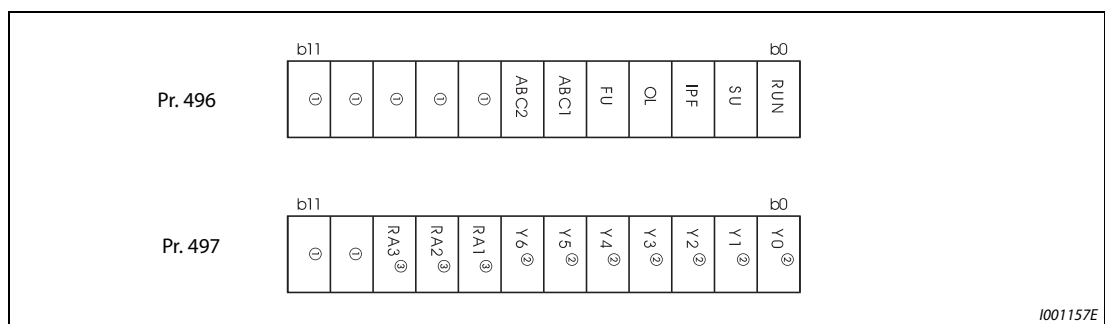

Fig. 5-182: Remote output data
- Refer to the fig. 5-182, and set "1" in the terminal bit (terminal with the REM signal assigned) of Pr. 496 or Pr. 497 to turn ON the output terminal (OFF when using negative logic). Set "0" to turn OFF the output terminal (ON when using negative logic).